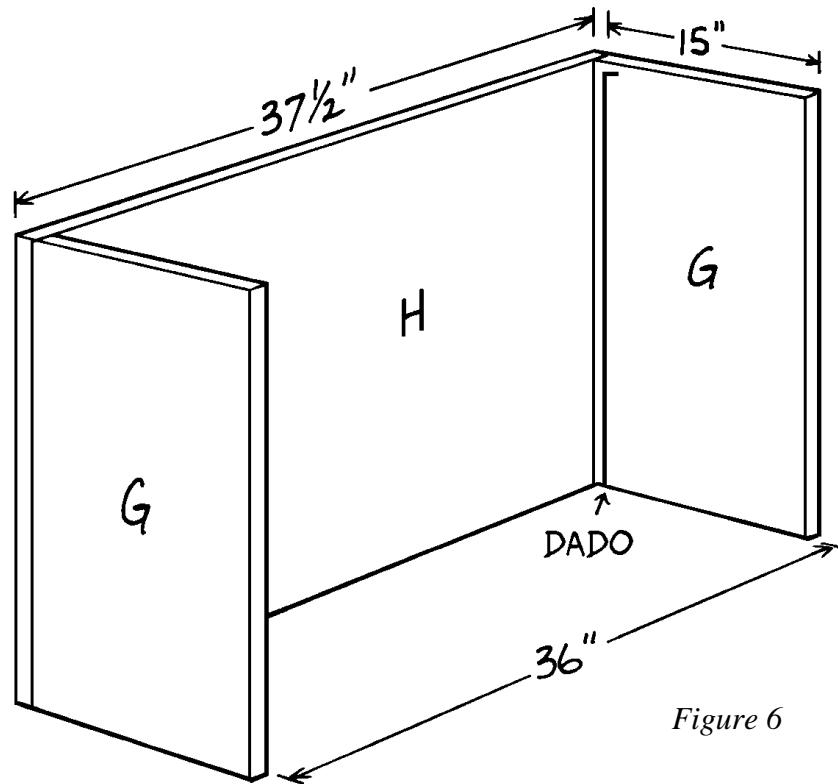

Figure 6
3. Repeat Step 2 to dado the remaining side (G), keeping in mind that the two dadoed sides (G) must be mirror images of each other when you're finished.
4. Cut one 37-1/2" x 29-1/2" back (H) from 3/4"-thick plywood.
5. At this point, you should perform what's known as a "dry assembly"—a temporary assembly using screws but no glue—to make certain that the desktop assembly will fit and slide easily inside the dadoes cut into the two sides (G). This particular step will be easier if you can a willing helper to assist.
6. First, using only as many screws as needed to hold the parts together, attach the back (H) over the edges of the two sides (G), as shown in *Figure 6*, with the mirror-image dadoes in the sides (G) placed at the back of the assembly. Insert the screws through the back (H) and into the edges of the sides (G). Now turn the assembly upside down.
7. To hold the open front edges of the sides (G) exactly 36" apart, attach two pipe clamps to them.
8. Now you need to test-fit the desktop assembly by slipping the dowel rods (C) protruding from its ends into the dadoes in the sides (G) of the cabinet. To do this hold the desktop assembly vertically over the partly assembled cabinet, with the top face of the desktop (A) facing the inner surface of the cabinet back (H) and the desktop front (D) facing down. Fit the dowel rods (C) into the dadoes in the two sides (G), and gently lower the desktop assembly into the cabinet.
9. Carefully turn the entire assembly right side up. Pull the desktop front (D) upward and forward towards the open front of the cabinet, making certain that the dowel rods (C) glide easily within the dadoes, and that the desktop assembly will rotate from a vertical to a horizontal position when you reach the top of the dadoes. If the movement isn't smooth, now is the time to correct it. You may have to enlarge the dadoes at places where the dowel rods (C) bind, sand down the rods slightly, or further round the back edge of the desktop assembly.
10. When the assembly works to your satisfaction, disassemble the structure, set the desktop assembly aside, and reassemble the back (H) and two sides (G), this time using glue and inserting 1-1/4" screws about 6" apart along the length of each joint.
11. Cut six 9-3/4"-long inner supports (I) from 1 x 3 pine.